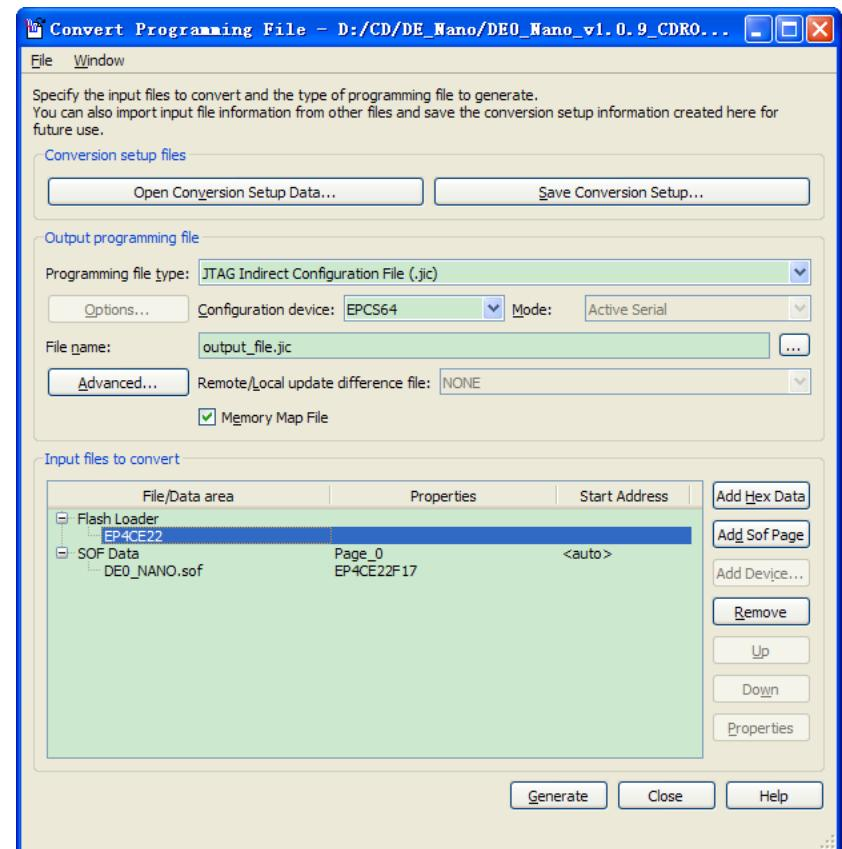

Figure 9-4 Convert Programming Files Page
12. Click **OK**. The **Convert Programming Files** page displays, should look like Figure 9-4.